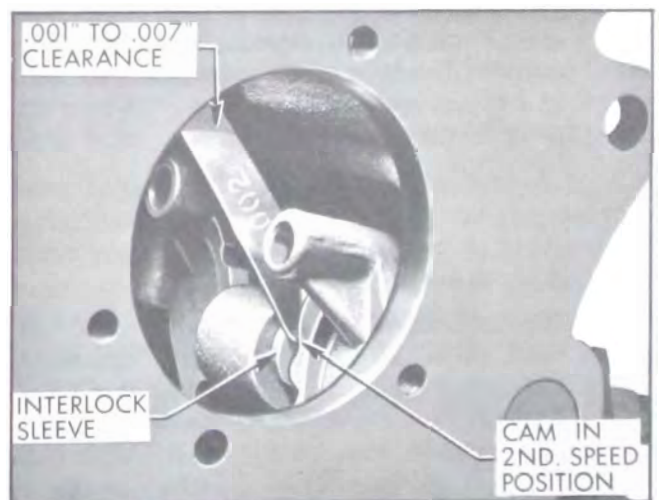

Figure 4-26—Checking Interlock Sleeve End Clearance
lock does not function properly and repairs are to be made to these assemblies. Badly worn parts will cause too much interlock sleeve end clearance. See Figure 4-26.
7. Shift second-third shift lever into second speed position. With one end of interlock sleeve against first-reverse cam, the clearance between sleeve and second-third cam should be .001" - .007". See Figure 4-26. If clearance